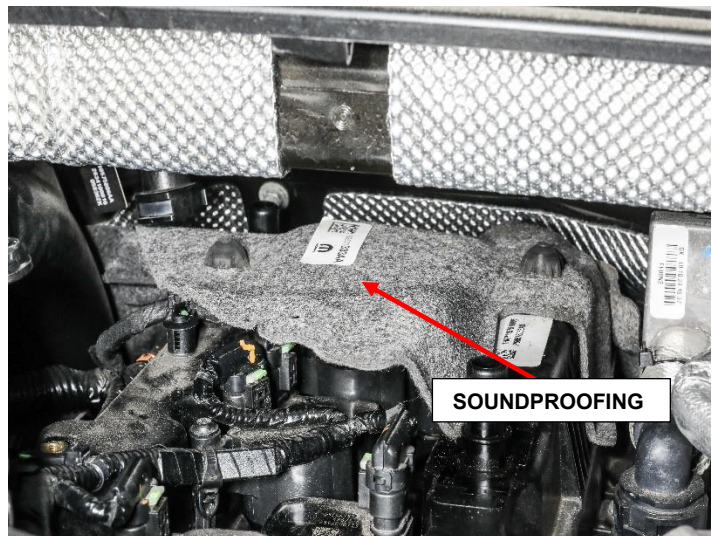

Figure 3 - Soundproofing
13. Remove the top soundproofing from the valve cover (Figure 3).
23. Install the top soundproofing from the valve cover and attach the retainer (Figure 3).